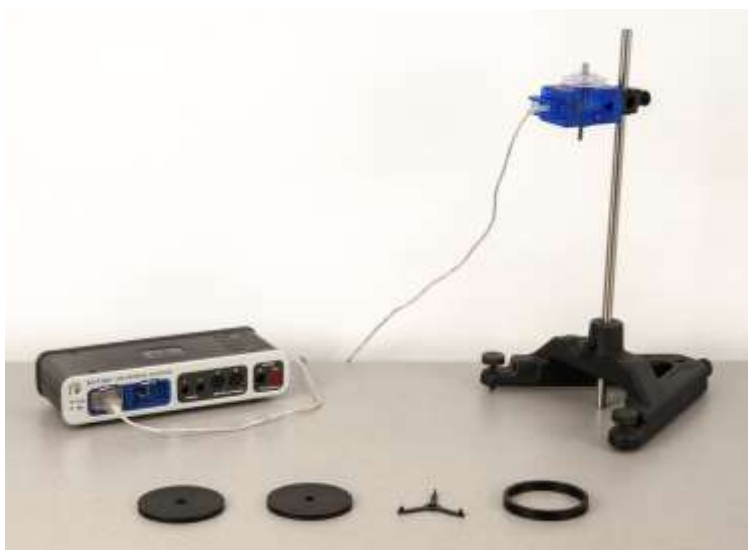

Figure 1: Complete Setup
1. Mount the Rotary Motion Sensor to the 45-cm rod, attached to the large rod base. See Figure 1. Connect the Rotary Motion Sensor to the interface.